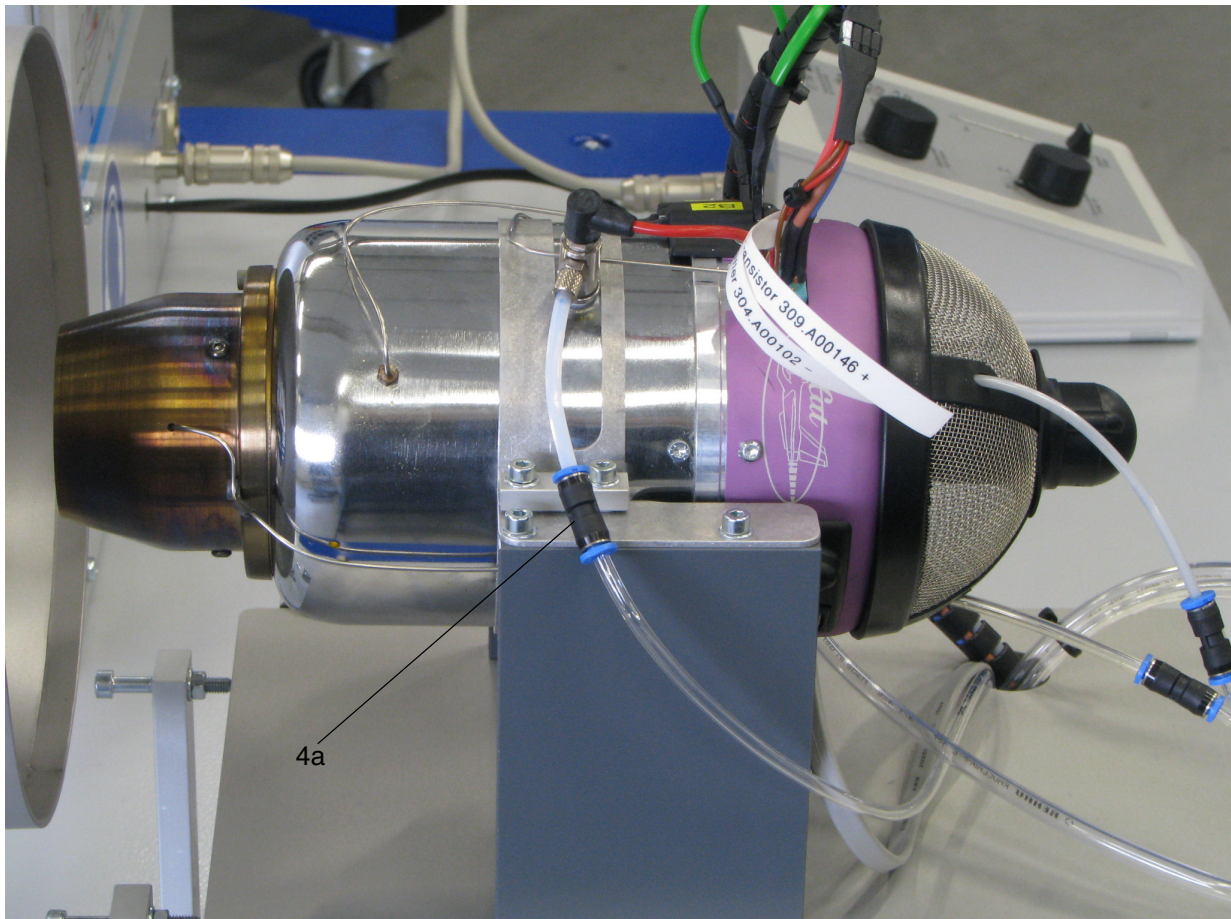

Fig. 3.4 Gas turbine P80-SE
- 4a - (see Fig. 3.4) Hose coupling for bleeding the start fuel line